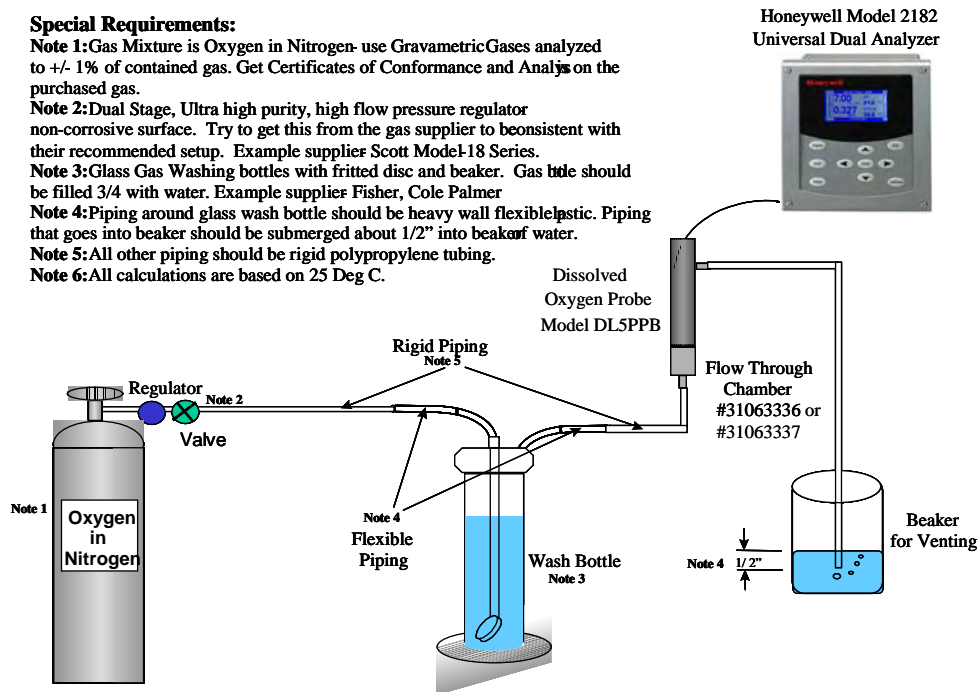

Figure 15-7 Suggested ppb Dissolved Oxygen Test Set-up
4. Set-up equipment as shown in Figure 15-7.